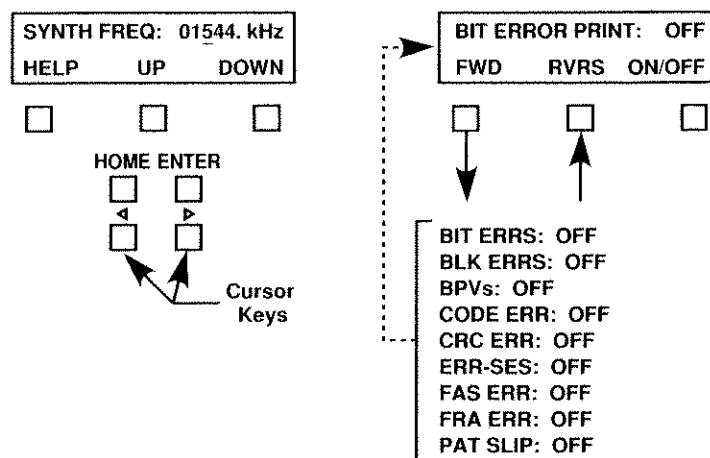

Figure 2-6
The softkeys are software-controlled switches that change functionality and definition according to the menu selected (see Figure 2-6). The softkeys have three basic functions:
2. Scrolling through lists of options or digits. Another function of the softkey is to view lists of options or change numerical values in the selection field, as shown in Figure 2-6. The softkeys are labeled FWD (forward), **RVRS** (reverse), **UP**, **DOWN**, or by a parameter, such as **BAUD** or **DATA** as in the AUXILIARY RS232 Interface menu.
The cursor keys are only used to position the cursor in the selection field (see Figure 2-6). The character above the cursor can be changed using the corresponding softkeys of the selected menu. These keys are only used when the cursor is displayed in the selection field.